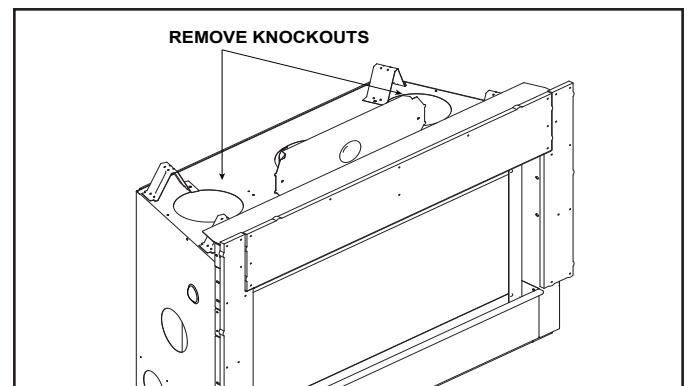

Figure 6.3 Remove Heat Management Knockouts
- Center the duct collar or passive heat adapter around the exposed hole and attach it to the appliance. See Figure 6.3.